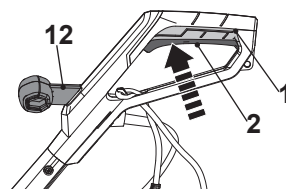

Fig. 7
1. Hold the product with one hand at the auxiliary handle (12) and with the other at the main handle (1).
2. Squeeze the on/off switch (2) to switch the product on (Fig. 7).
3. Release the on/off switch (2) to switch the product off.